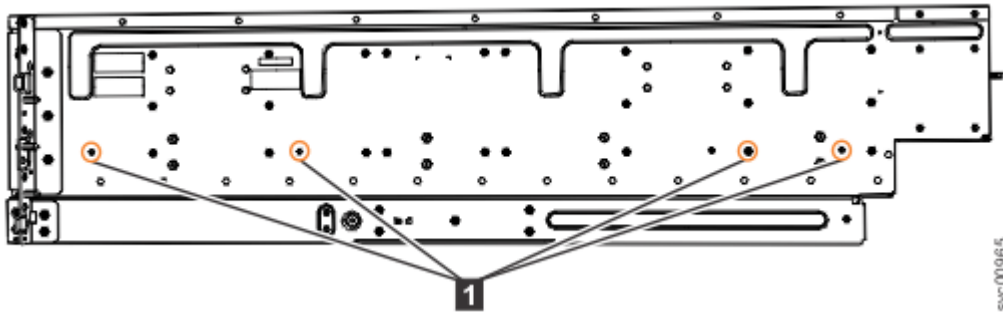

Figure 32. Screw locations to attach the inner rail to the enclosure
4. Use four M4 screws to attach the inner rail to the side of the enclosure. Figure 32 on page 41 shows the screw locations.